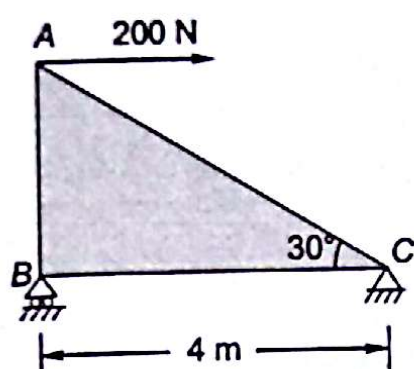

Fig. 2.21
- 2.1 A force of 200 N is applied at A on rigid body ABC as shown in Fig. 2.21. Replace this force by equivalent couple and force at C.